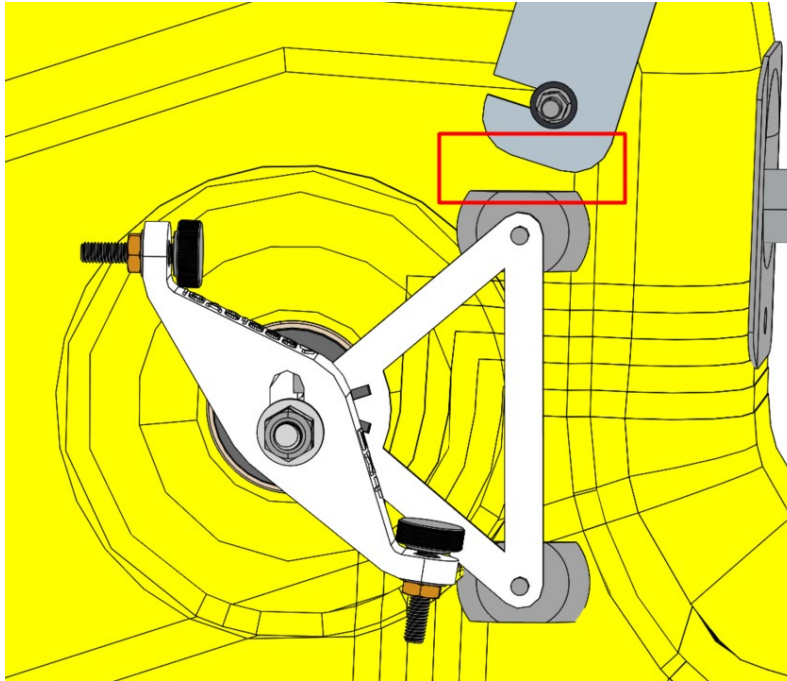

Figure 10. Gap between ECS heater bracket and trimmed CLICKBOND stud
8. If needed, identify any areas of interference between the Limit Switch Bracket and ECS heater bracket by pre-installing 1 each of the CLICKBOND studs (CB4000G08CRA8P750 or CB4000G3CRA8P750) approximately as shown in **Figure 10**. Mark the area of interference with ECS heater bracket with a permanent black marker. Loosen from each CLICKBOND stud, shim the gap and cut away interference area with a hand cutting tool. Be careful not to damage the surrounding area. Clean working area to remove all FOD, including carbon dust, with a shop vac.